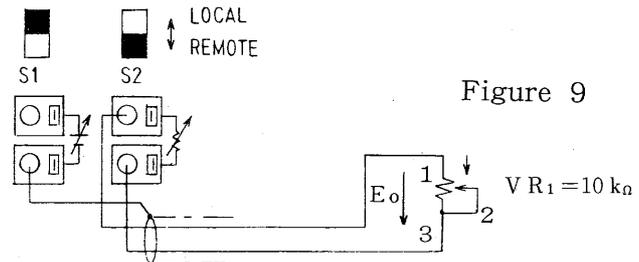

Figure 9
- 2) Set the CV REMOTE S2 switch on the rear to REMOTE. As shown in Figure 9, connect an external resistor (VR1 = 10 kilohms).
- The terminal (1) side of the external resistance (VR1) has the potential of the output (-) terminal.
- For connection of VR1, use a two-conductor shield. Connect the outer shield to the (+) output. (See Figure 9.)